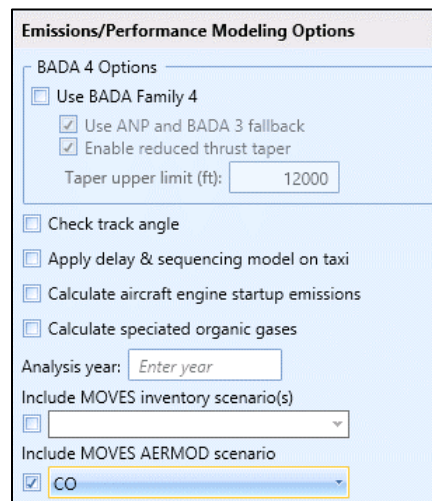

Figure 9-7 Emissions/Performance Modeling Options
3. In the *Define Metric Results* wizard, *Set Processing Options* step, check the *Include MOVES AERMOD scenario* checkbox and use the drop-down list to select a MOVES scenario (Figure 9-7). The list will only include MOVES AERMOD scenarios with a pollutant type that matches that of the metric result.